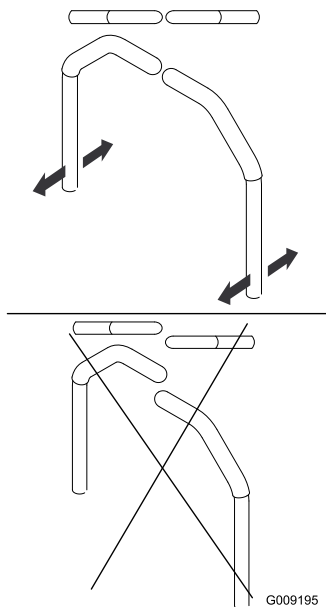

Figure 84
4. Align the levers in the front-to-rear position by bringing the levers together to the NEUTRAL position, and slide them until they are aligned, then tighten the bolts (Figure 84).